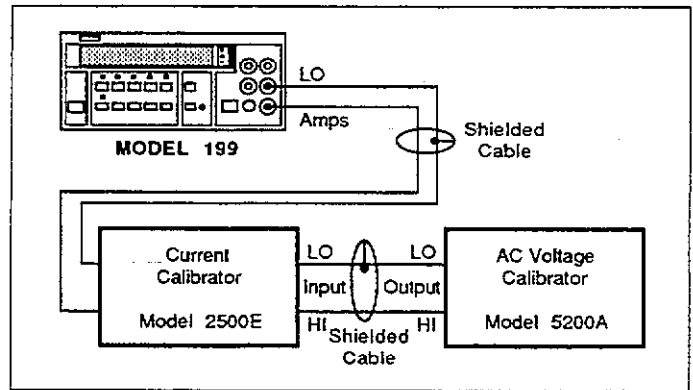

Figure 4-6. Connections for TRMS AC Current Verification
2. Connect the AC current calibration source to the Model 199 as shown in Figure 4-6.